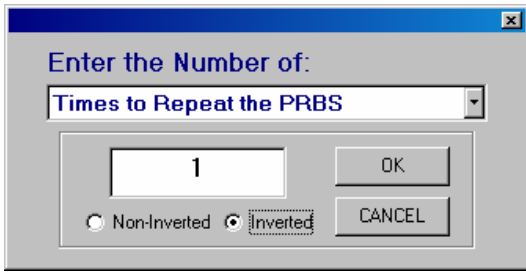

Figure 12. Creator Example Step #6
6. To balance the pattern, two additional sequences need to be added. Namely, the inverse of the first two sequences. To add the next sequence, repeat step #3, except with the **Inverted** option selected (Figure 12). Note that after **OK** button is clicked, the